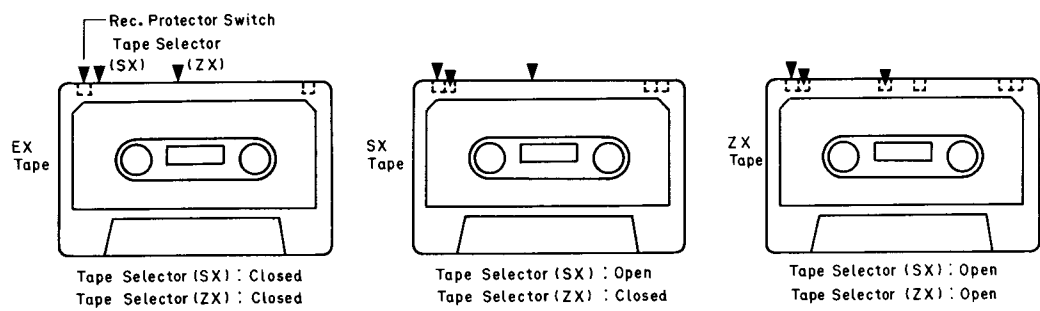

Fig. 4.2
Fig. 4.2 shows the ON (closed)/OFF (open) states and locations of the Auto Tape Selector switches (SX) and (ZX) as observed when EX, SX and ZX are loaded. Tape selector signals are input to IC607's T.Sel.1 (IC607-15) and T.Sel.2 (IC607-16), then they are output to IC608's T.Pos.1 (IC608-36) and T.Pos.2 (IC608-37). These outputs are decoded by the circuit consisting of Q628–Q630, IC604 (3/4), etc., so they provide EX, SX and ZX output signals.